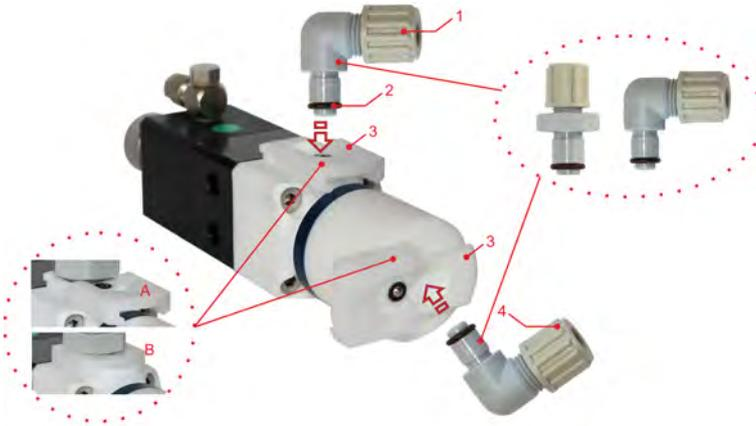

Fig. 2: EP-SV 295241 / EP-FD-SV 295242
2. ➤ Remove the plug-in threaded connector or angled plug-in threaded connector (Fig. 2, 1) from the packaging.
3. ➤ Fit the O-ring (Fig. 2, 2) onto the plug-in threaded connector or angled plug-in threaded connector.